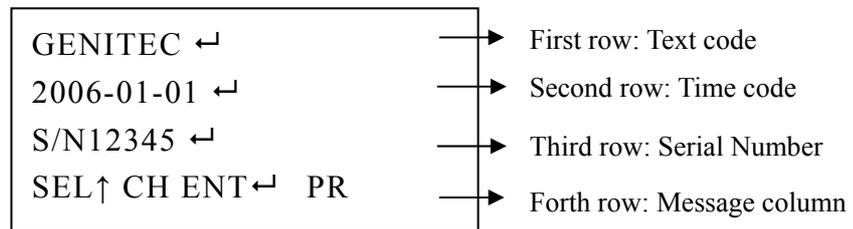

Figure 35
1. Printing page of bar code (Refer to figure 35) :